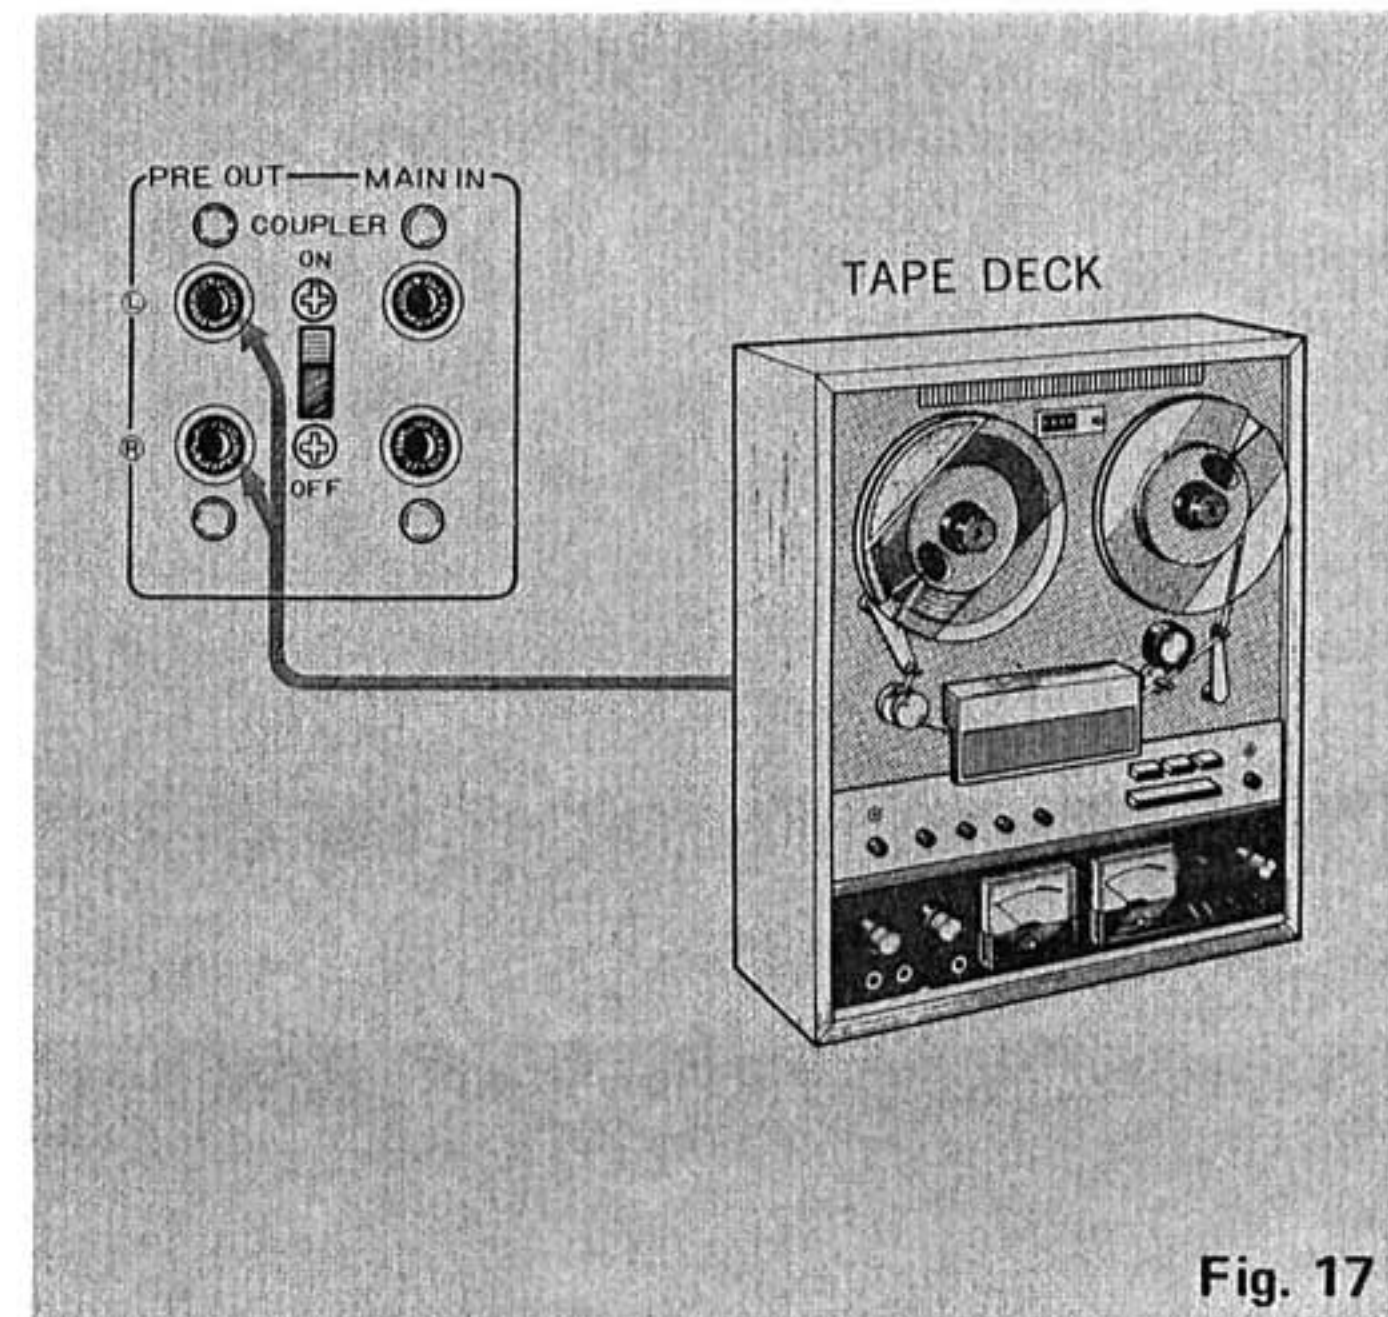

Fig. 17
1. To record a mixed (microphone sound + program source) signal, the tape deck input terminals must be connected to the CR-800 Pre Out jacks. Then recording can be done in the regular way. If the tape deck is connected to the Rec Out jacks, only the program source signal (without the microphone sound) will be recorded. See Fig. 17.